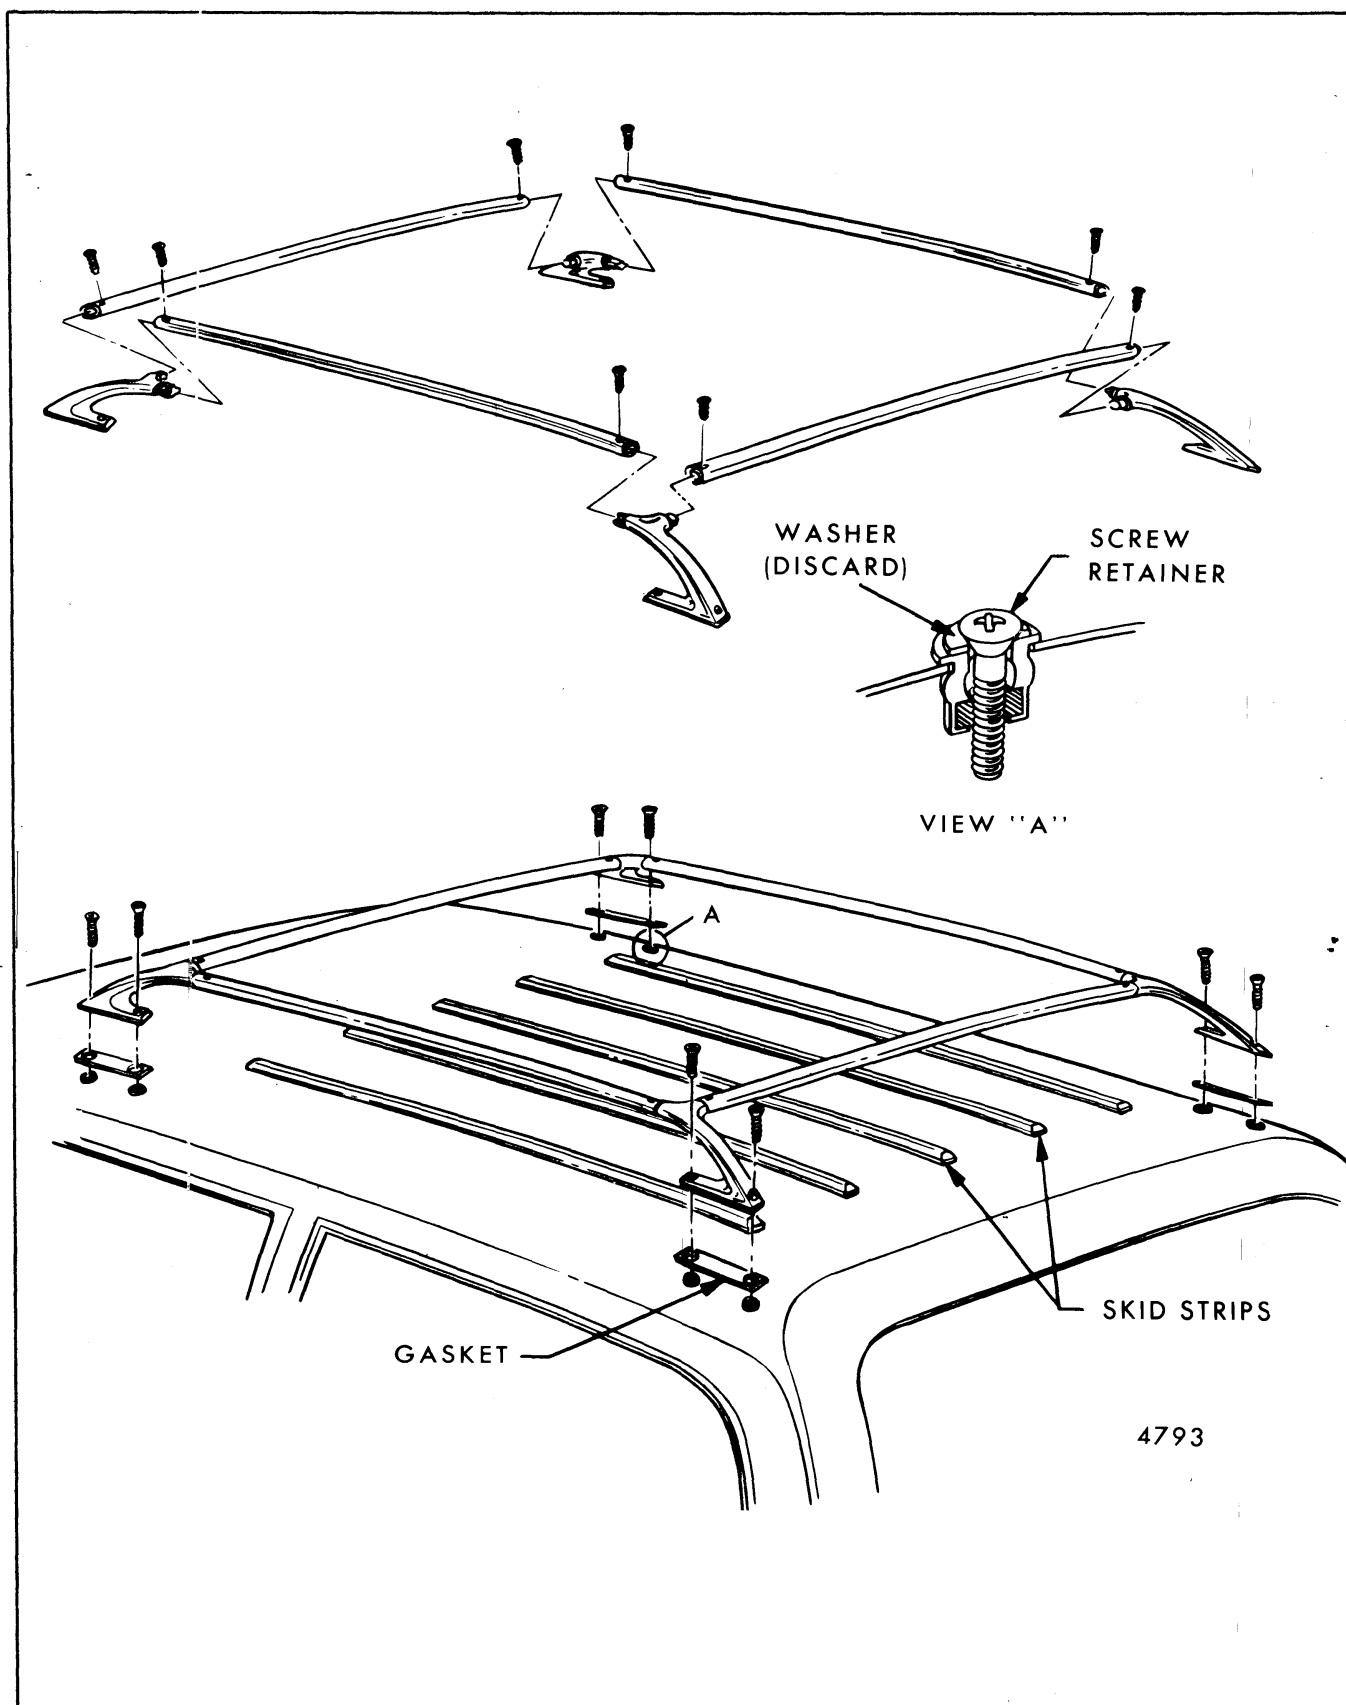

Fig. 8-8-"A" Body Luggage Carrier Installation - Factory Installed Option
**NOTE:** On "A" styles there are eight (8) screws securing supports and top rails to roof panel. On "B" styles there are ten (10) screws securing supports and top rails to roof panel.
1. Assemble supports and top rails with 3/8 inch long screws (Fig. 8-8).
2. Remove screws and washers from rubber support mounting nuts on roof (View "A", Fig. 8-8). Leave rubber nuts in place. Keep screws, discard washers.
4. Position luggage carrier on roof and install screws through supports into rubber nuts. Use light pressure on screws until threads engage in the nut to avoid pushing nut through roof panel (Fig. 8-8).